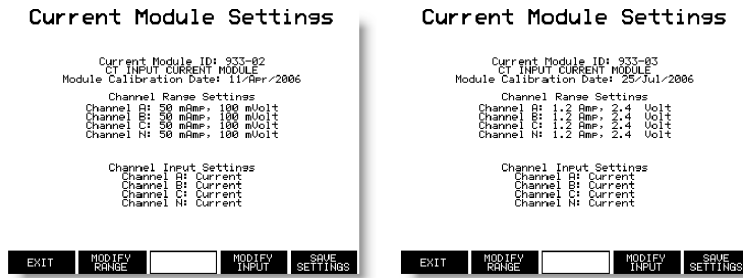

Figure 3.11: Low Current Module Setup Menus
5. Start the 933A and press the SETUP key and 6-Current Setup to check the settings displayed for the module (as seen in Figure 3.11).
Before using the current module, make sure to press the SETUP key, then 6—Current Setup to configure the range. You should see the screen/menu similar to that shown in Figure 3.11.